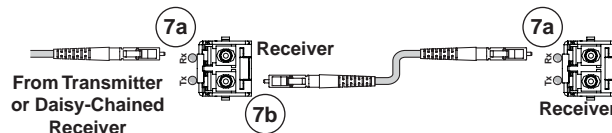

Figure 5. Daisy Chain Configuration
- **One way (transmitter to receiver) with daisy chain (receiver to receiver)** — Connect a fiber cable from a fiber optic source to connector ⑦a and another cable from connector ⑦b to connector ⑦a on the the next receiver in the daisy chain (see figure 5.) Set each receiver in the daisy chain to daisy chain mode (via an **SIS command** for the PowerCage FOX Rx receiver.) Up to 10 properly-configured receivers can be connected in a daisy chain to a single transmitter.
Normal configuration — For all one-way return serial communications from the receiver to the Rx connector on the transmitter (see figure 5.)